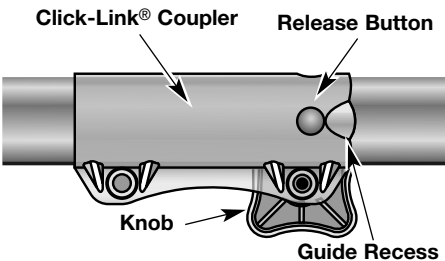

Fig. 21
1. Turn the knob counterclockwise to loosen (Fig. 21).
2. Press and hold the release button (Fig. 21).
1. Turn knob counterclockwise to loosen (Fig. 21).
NOTE: Aligning the release button with the guide recess will help installation (Fig. 21).